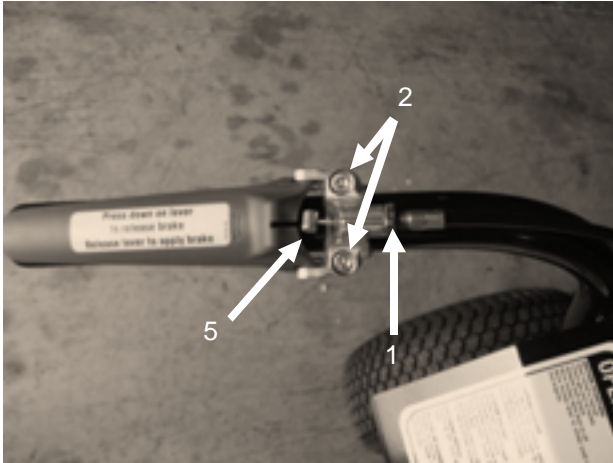

Figure 47
1. Using a 13mm wrench, loosen the jam nut **Figure 47**.
2. Remove both socket head screws from the operator presence handle (10206) **Figure 47**.
5. Detach the T-barb from the handle **Figure 47**.